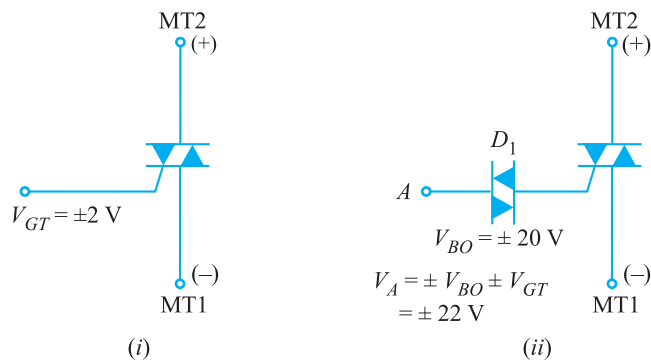

Fig. 21.22
**Solution.** The rated values of  $V_{GT}$  for triacs are generally low. For example, the triac shown in Fig. 21.22 (i) has  $V_{GT} = \pm 2V$ . However, we can raise the triggering level of the triac by using a *diac* in the gate circuit as shown in Fig. 21.22 (ii). With the diac present, the triac can still be triggered by both positive and negative gate voltages. However, to fire the triac into conduction, the potential  $V_A$  at point A in Fig. 21.22 (ii) must overcome the  $V_{BO}$  (breakover voltage) for the diac plus  $V_{GT}$  i.e.